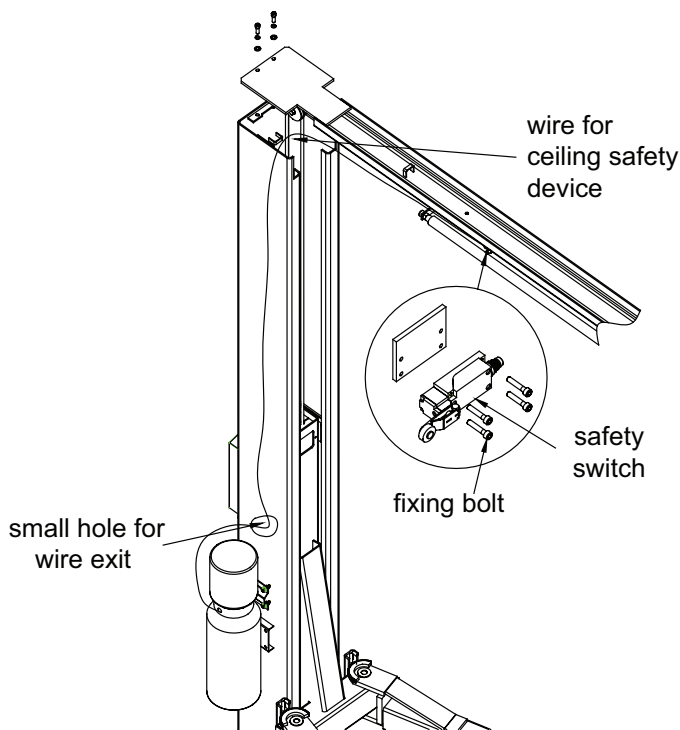

Fig. 11
- 7) Attach the ceiling safety bar and switch to the overhead cross beam. (Fig. 11)
- 17) Using the cable provided connect the ceiling safety switch to power unit. Be sure that the cable should connect to the two normal closed terminals of the switch. (Fig.11)